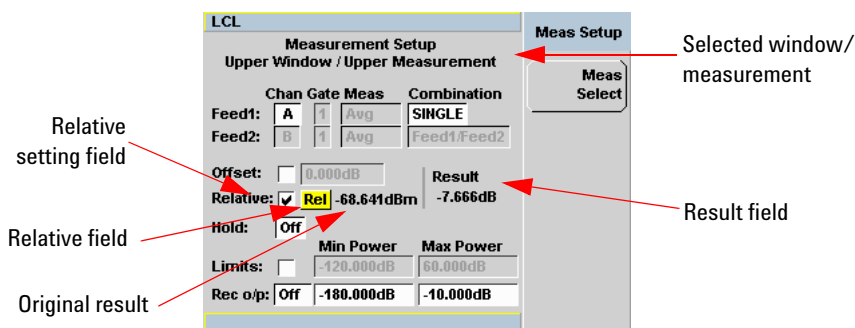

Figure 2-2 Typical relative measurement display
- Figure 2-2* shows a **Measurement Setup** display and the relative measurement items labeled.